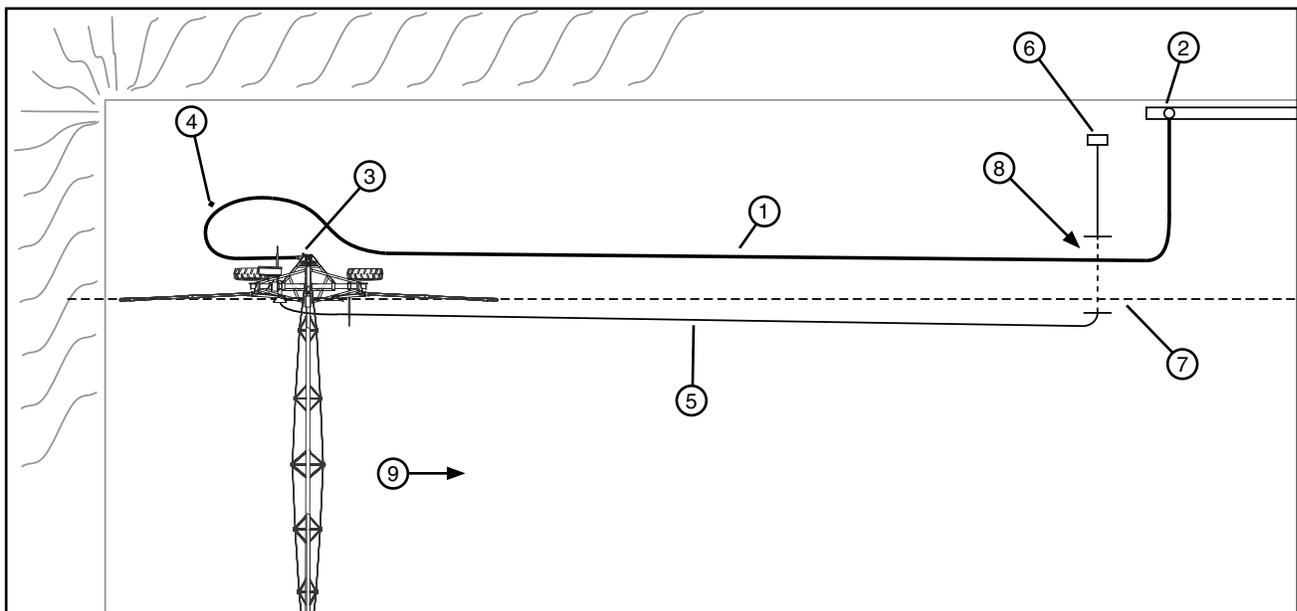

Figure 47-1 1. First Hose 3. Swivel Inlet 5. Electric Cord 7. Furrow Guidance 9. Direction of Travel
1. Connect the first hose to the pipeline shut off valve and linear cart swivel inlet, then latch in place. See Figure 47-1.
- Temporarily installing a post approximately 6 ft (1.82 M) behind the linear cart and on the pipeline side, the post will aid in connecting the polyethylene hose to the linear cart inlet. See Figure 47-1.
- (a) Position the electric cord far enough away from the hose, so that the hose will not drag over it. To prevent interference between the electric cord, cart tires, furrow guidance system and hose, bury the electric cord in the area where interference will occur or when applicable, position the electrical cord over the top of the hose. See Figure 47-1.